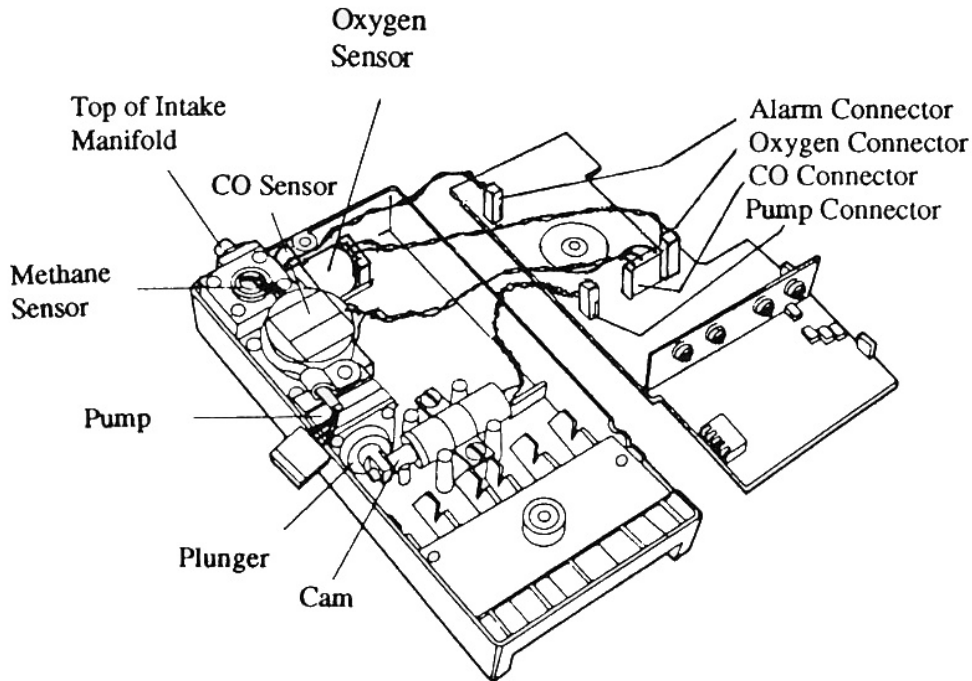

Fig. 9. Intake manifold assembly and connectors inside a detector.
3. Remove the battery compartment cover and the four AA batteries. Slowly lift the main circuit board by raising the side of the board away from the 6 pin filament connector to expose the connectors on the underside of the main circuit board (Fig. 9). Unplug the 2-connector cables to the motor and alarm. The 2 pin connector further from the display connects the pump motor to the main board, the one nearest the display connects the alarm. Unplug the keyed, 3-pin connector to the CO cell (middle of the board) and the 2 pin connector next to it (this last connects the oxygen cell). Remove the board.
6. Reconnect all connectors on the bottom of the board (see Fig. 9). Make sure each connector has the proper orientation. All 2-pin connectors are keyed, but they can still be forced contrary to their proper orientation. The 3-pin CO connector is also keyed (4-pin connector with one position blocked).